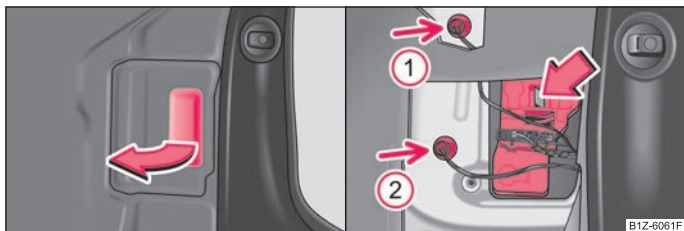

Fig. 202 Luggage compartment: Cover for the lamp holder/removing the lamp holder
- Open the lamp holder cover ⇒ fig. 202 - left.
- Take the defective light bulb (arrow ① or ②) out of the housing and replace it with a new one.
- Take out the light bulbs of the tail light (arrow ① and ②).
- Press the catch in the direction of arrow and take out the lamp ⇒ fig. 202 - right.